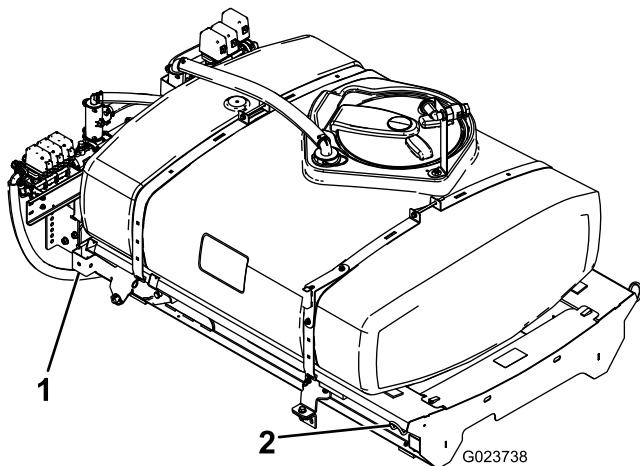

Figure 8
- Using a lift, raise the tank skid assembly (Figure 8) and position it over the vehicle frame with the pump and valve assemblies facing rearward.